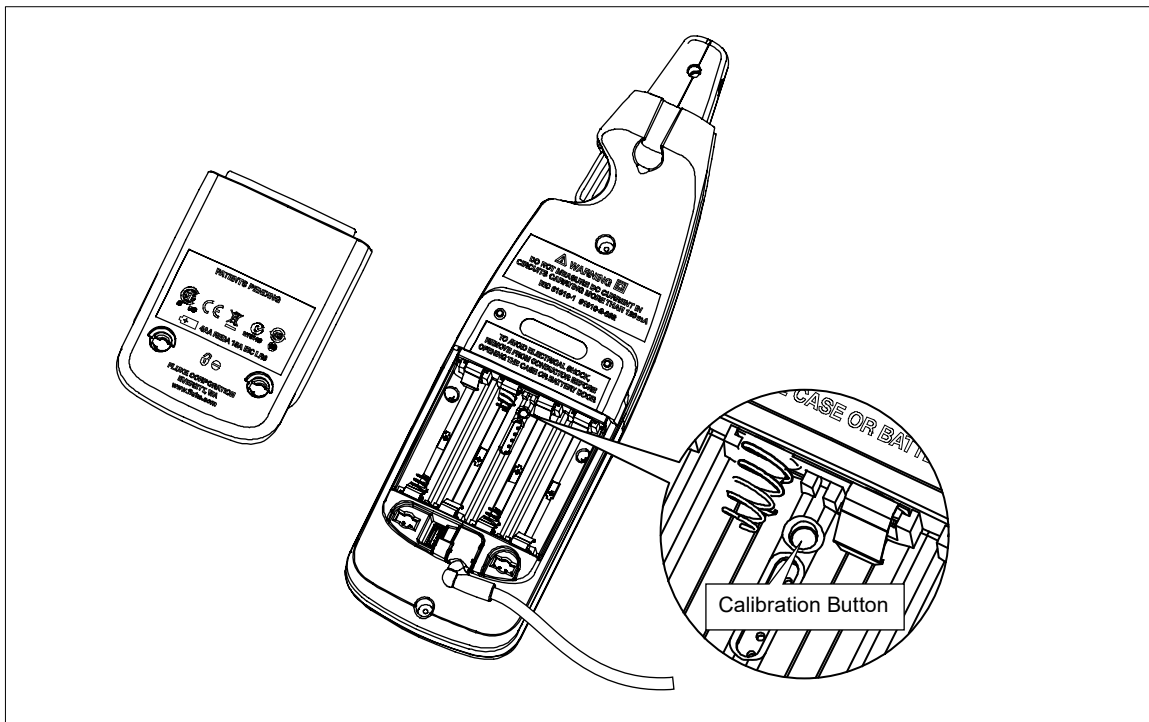

Figure 4. Accessing the Calibration Button
3. Use a small probe and push the calibration button longer than 2 seconds. See Figure 4.